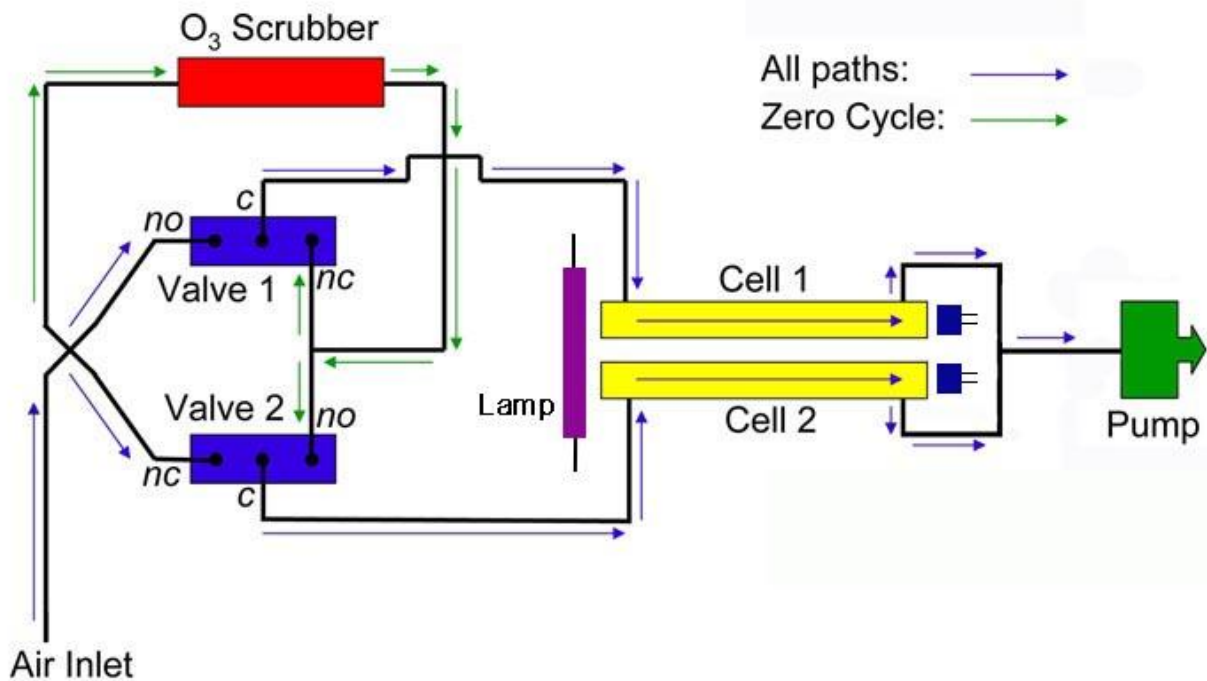

Figure 1-1. Schematic diagram of the Model 205 Dual Beam Ozone Monitor.
Figure 1-1 is a schematic diagram of the ozone monitor. Ozone is measured based on the attenuation of light passing through two separate 15-cm long absorption cells fitted with quartz windows. A single low-pressure mercury lamp is located on one side of the absorption cells, and photodiodes are located on the opposite side of the absorption cells. The photodiodes have built-in interference filters centered on 254 nm, the principal wavelength of light emitted by the mercury lamp. An air pump draws sample air into the instrument at a flow rate of approximately 1.5 L/min. A pair of solenoid valves switch in unison so as to alternately send ozone-scrubbed air and unscrubbed air through the two absorption cells. Thus, the intensity of light passing through ozone-scrubbed air (I_o) is measured in Cell 1 while the intensity of light passing through unscrubbed air (I) is measured in Cell 2. Every 2 seconds, the solenoid valves switch, changing which cell receives ozone-scrubbed air and which cell receives unscrubbed air.
Not shown on Figure 1-1 is the DewLine™, which serves to make the humidity entering the detection cell identical during I and I_o measurements. Please see our website for a technical discussion of the DewLine™ and its importance to ozone measurements: www.twobtech.com/dewline.htm. Briefly, water vapor adsorbed to the inner wall of the detection cell changes the reflectivity of the cell. If humidity is not the same during I and I_o measurements, an offset in the ozone measurement will occur and can be up to several tens of ppb for sudden changes in ambient humidity. The offset will change with time as the internal ozone scrubber equilibrates with water vapor. Even for fixed-site ozone monitors, an offset measurement error will occur if the instrument is zeroed with dry tank air and then used to measure ozone in humid air. The DewLine™ solution to this often-ignored problem is unique to 2B Tech instruments.